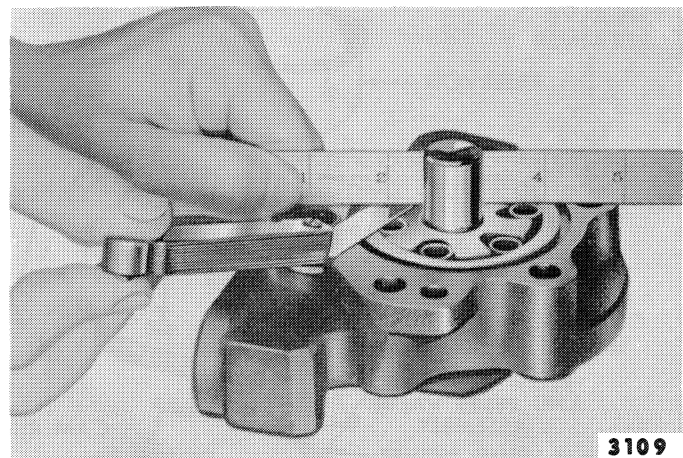

Figure 7—Checking Clearance of Carrier and Rollers in Pump Body
8. Check the end clearance of the carriers and the rollers. Use a straight edge and a feeler gauge as shown in Figure 7. If the end clearance exceeds 0.0015 inch, replace the carrier and/or rollers.